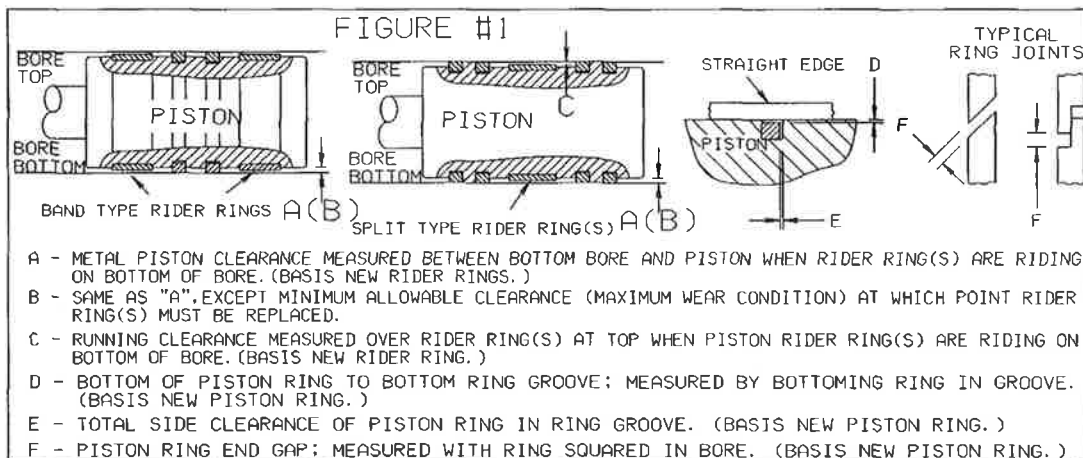

Figure 4-16. Points for Checking Clearance
The importance of frequently checking ring wear rate cannot be over-emphasized. The rate of wear must be determined so that a replacement schedule can be established. Measurement of the piston to cylinder bore clearance ("A", Figure 4-16) should be taken at intervals of 10, 100, 250, 500 and 1000 hours. Record these numbers for future reference, or plot a simple wear versus time curve that will indicate both the rate of wear and the approximate number of hours running time before the combination rings need to be replaced.
Rings are replaced when the bottom piston to cylinder bore clearance ("B" Figure 4-16) has been reduced to the minimum allowable clearance or if the original radial thickness of the rings has been reduced by one-half.
The rings must be assembled in the piston grooves as the piston is slid into the cylinder bore. These rings will extend beyond the piston's outside diameter when installed. After the piston is installed, measure the bottom clearance between the piston and cylinder bore (see "A" Figure 4-16). This is the point of reference from which the amount of wear will be determined.
8. Place the ring segments into the piston grooves and take side clearance as shown in "E" Figure 4-16; record these clearances.
10. Measure the clearance between the ring and cylinder bore at "C" Figure 4-16. Repeat Steps 8 and 9 until all rings have been installed.